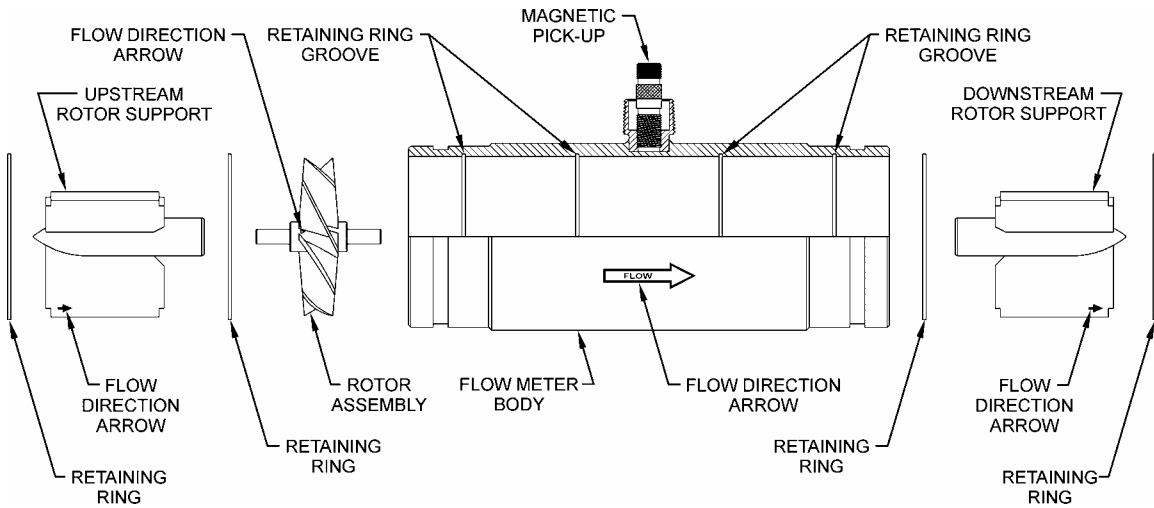

Figure 4: Relative positions of internal components for turbine meter sizes B111-140 through B111-200.
4. The rotor may also be removed at this time. Note: 4 inch and larger meters have two retaining rings (one on either side of the rotor) that need to be removed before the rotor can be removed (**Figure 4**).
2. Secure a retaining ring in the groove provided. Be sure that retaining rings are completely installed in each groove. Note: 4 inch and larger meters have a retaining ring at both ends of the rotor (Fig. 4).